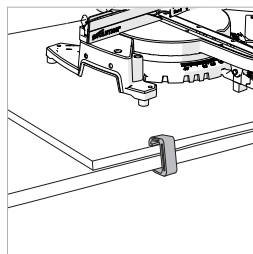

Fig. 2
- Use G-clamps to attach the mounting board to the work surface. (**Fig. 2**)